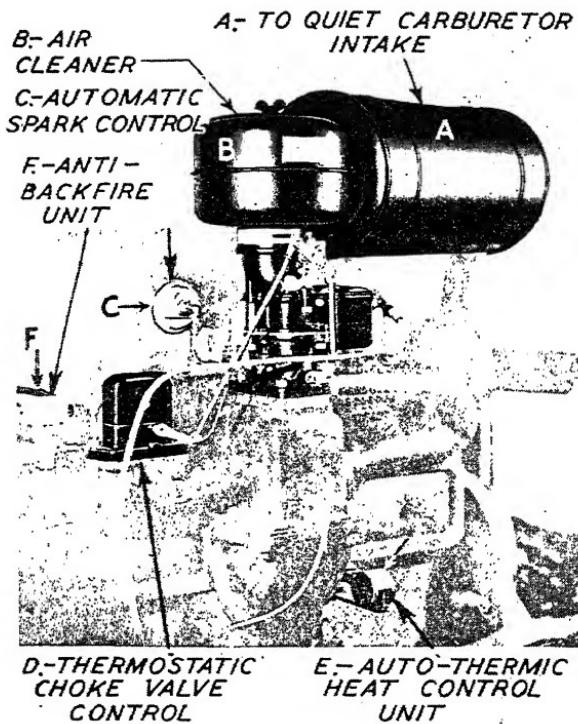

Fig. 3. Studebaker Fuel System
**Fuel System Refinement.** The fuel supply system of the automobile has been subject to many refinements. Fig. 3 illustrates the Studebaker fuel system with a grouping of some of the refinements offered by that company. For instance in order to quiet the carburetor intake the device illustrated at *A*, Fig. 3, has been incorporated. This is a system of conducting the air through passageways